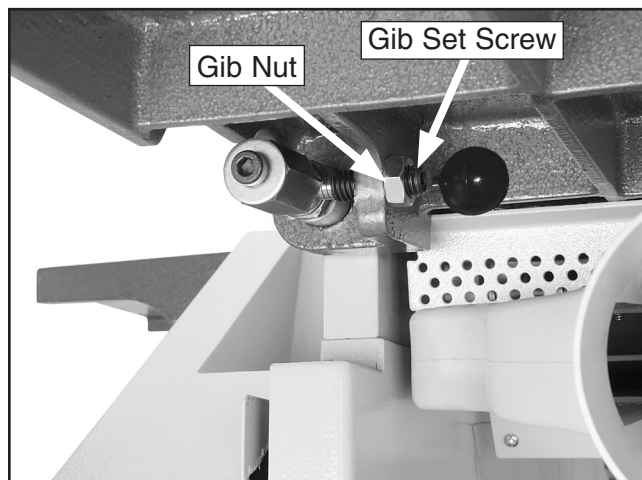

Figure 74. Outfeed table gib control.
3. Repeat **Steps 1-2** with the outfeed table gib control (**Figure 74**).